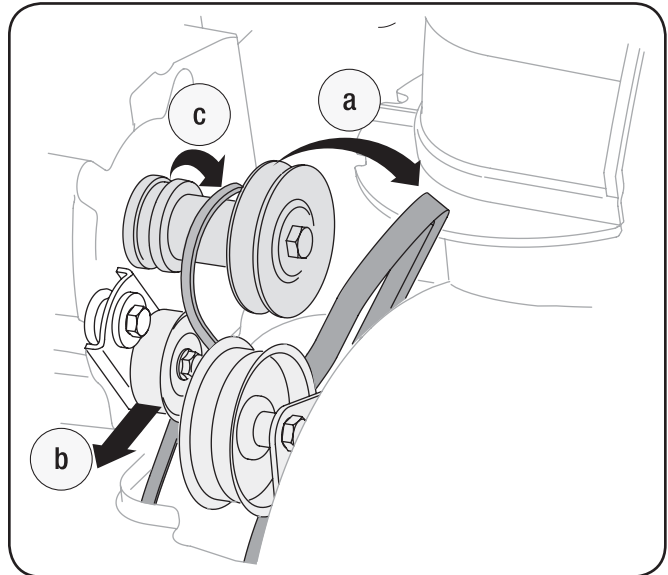

Figure 8-6
3. Remove the belt as follows. See Fig. 8-6: